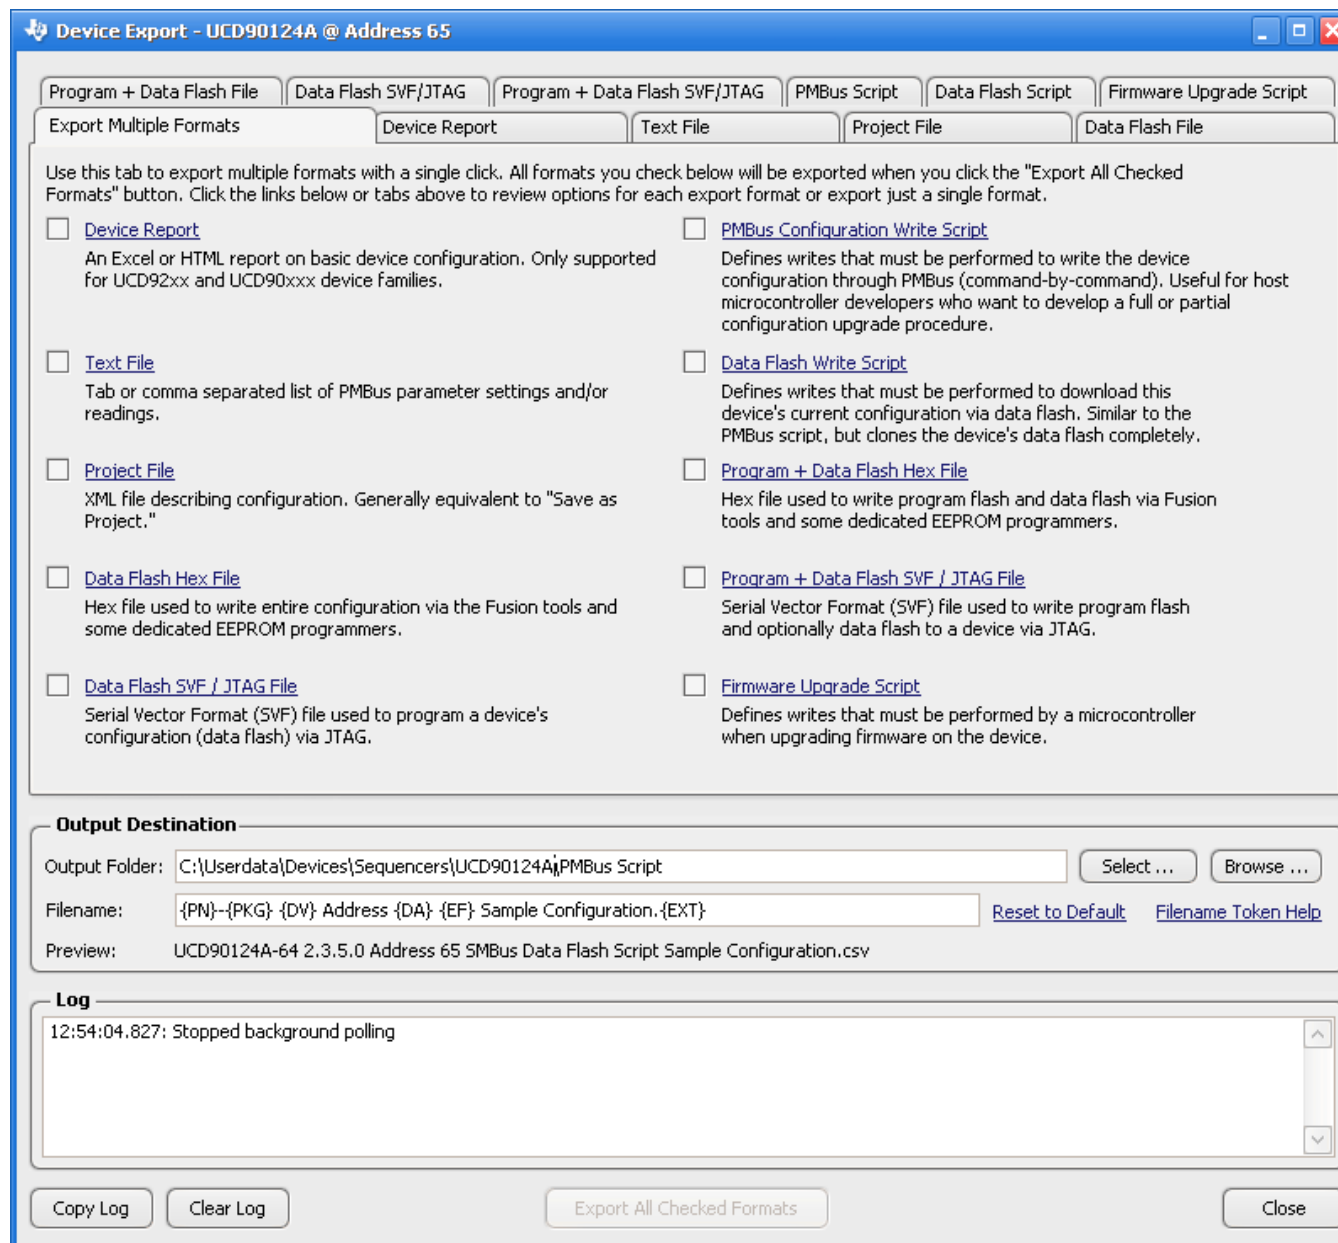

Figure 36. Fusion GUI Device Configuration Export Tool
- Another in-circuit programming option is for the *Fusion GUI* to create a data flash image from the configuration file (Figure 36). The configuration files can be exported in Intel Hex, Data Flash Script, Serial Vector Format (SVF) and S-record. The image file can be downloaded into the device using I²C or JTAG. The *Fusion GUI* tools can be used on-board if the *Fusion GUI* can gain ownership of the target board I²C bus. It is recommended to use Intel Hex file or data flash script file for production programming because the GPIOs are under controlled states.